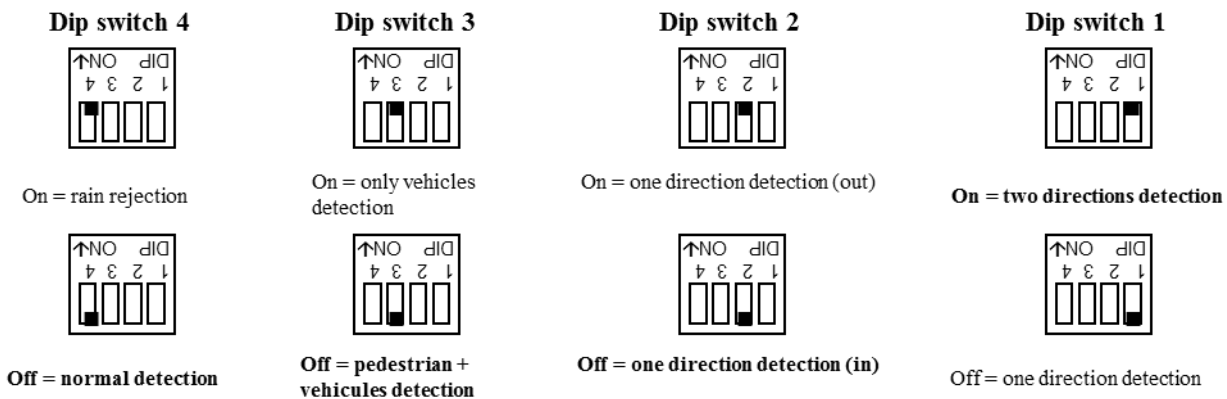
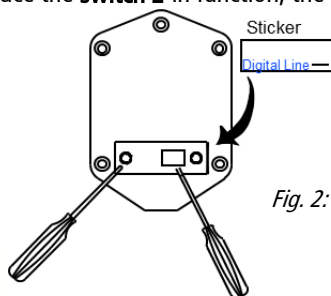

Fig. 1: parameters following DIP switch position
Fig. 2: front face
This special version of TM60 is designed for pedestrian and bicycles detection. It allows, among other applications, the extension of the green phase while pedestrians are crossing. The position of the piano switch (fig. 1) set different parameters. Remarks: please do not take account of the DIP switch 5 & 6! **The TMP can detect vehicles running at low speed in the detection area!**
- To select the different parameters, place the DIP switch control levers (accessible without dismounting the front face, see fig. 2) following your choice (fig. 1). **When the settings are done, please place the sticker with care in order to ensure the unit is waterproof. The warranty covers only the radars which have been provided with their sticker!**
We have calculated some detections patterns surfaces, based on common installation parameters. Please note that these values result from theoretic calculations and do not take in account environmental factors. These values are given for the sensitivity factory setting (see fig. 1).